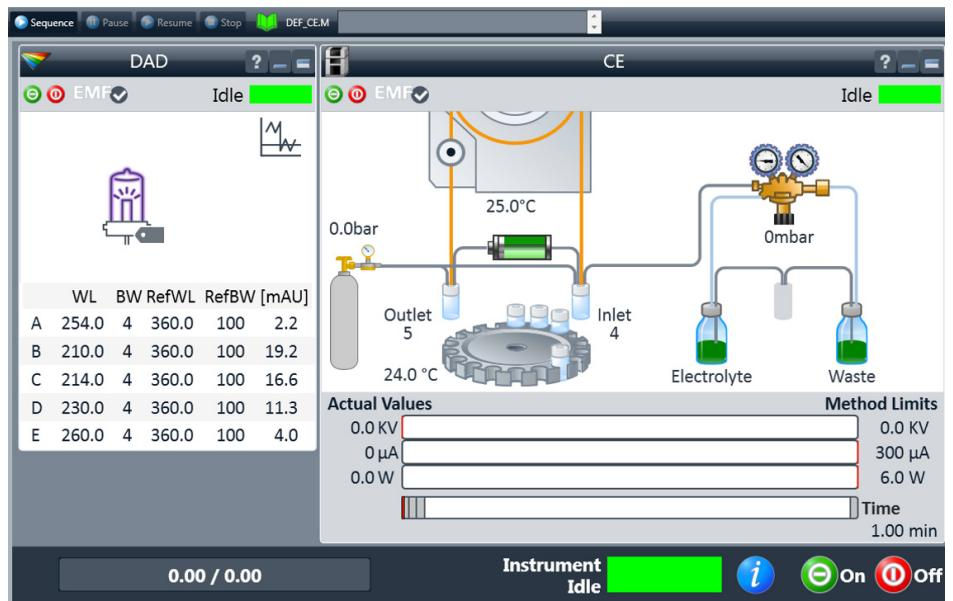
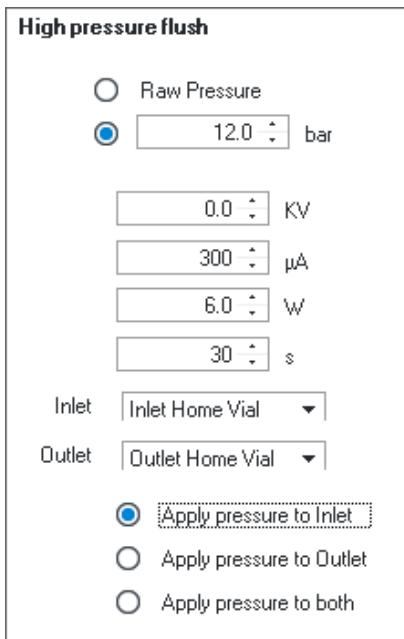

Figure 43 CE diagram with CE+p mode activated
Figure 45 Parameters for high pressure flush
- 9 Once the external pressure is configured a new icon for an external pressure reservoir will appear, see Figure 43.
When the instrument is operating in CE+p mode, the user can chose to use the **High Pressure Flush** command menu during preconditioning or postconditioning (Figure 45). This means that high pressure will be applied to the capillary inlet vial which may be:
High pressure may be applied independently of the method for capillary conditioning or cleaning by clicking right at the external pressure icon in the CE diagram (see Figure 43 on page 163). This will cause a parameter setting field to appear (see Figure 45 on page 166). From this field you may chose to apply pressure to the inlet, outlet or both vials, and also whether to simultaneously apply a voltage of -30 to 30 kV for a given time.